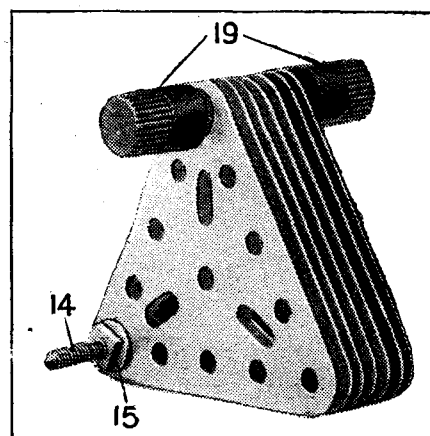

Fig. 3.
The movable portion (Fig. 3) is composed of seven triangular plates threaded in a similar manner to those in the fixed portion, with two nickel spacing washers at the top and bottom, but without triangular fibre plates. This movable portion is passed between the apertures of the fixed portion and connected to the 1-in. and ½-in. brackets (7 and 7a) with a lock-nut on the outside of the same brackets. The special fibre plate (30), itself held in place by two trunnions (31) one on each side of the plate. The inductance discs (38 and 39) are attached at the upper corresponding corner of the same plate by hinges.